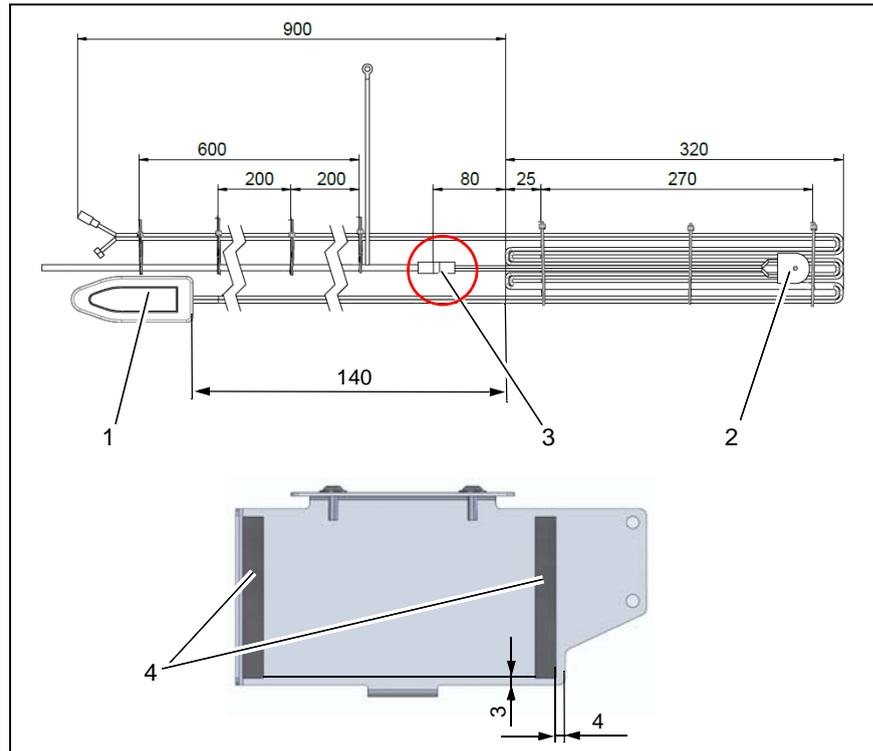

Fig. 2
1. Prior to installing the Fleet-Recorder, pre-assemble the antenna (Fig. 2/1) with the P20 buzzer (Fig. 2/2) according to the drawing.
2. Connect the plug of the P20 buzzer to the plug of the W77 cable loom (Fig. 2/3).
Glue the sealing tape (Fig. 2/4) onto the holder according to the sketch.